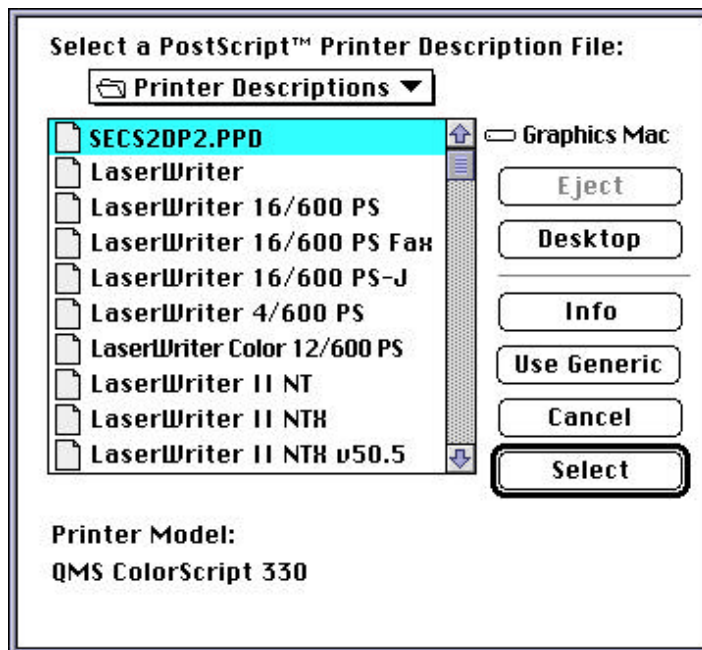

Figure 4-5 Select PostScript Printer Description File Window
If your computer is unable to automatically set up the printer, the Select a PostScript Printer Description File window similar to the one shown in Figure 4-5 displays, and you will need to manually select the correct PPD file for your ColorScript 310/330 printer. To manually set up your ColorScript 310/330 printer:
- 1. If the Select a PostScript Printer Description File window shown in Figure 4-5 displays, select the PPD file that you installed in the procedure on Page 37 from the list of available PPD files.**